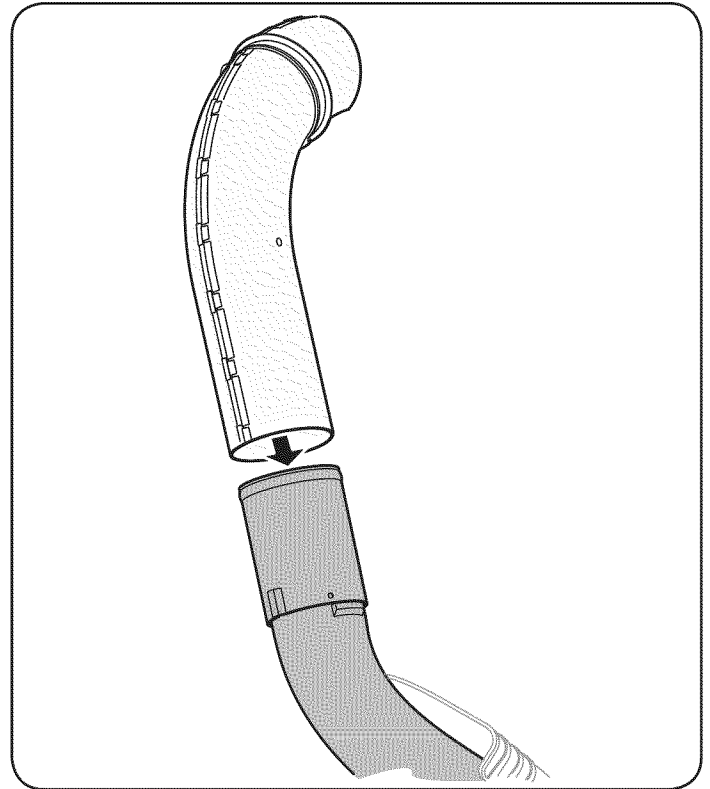
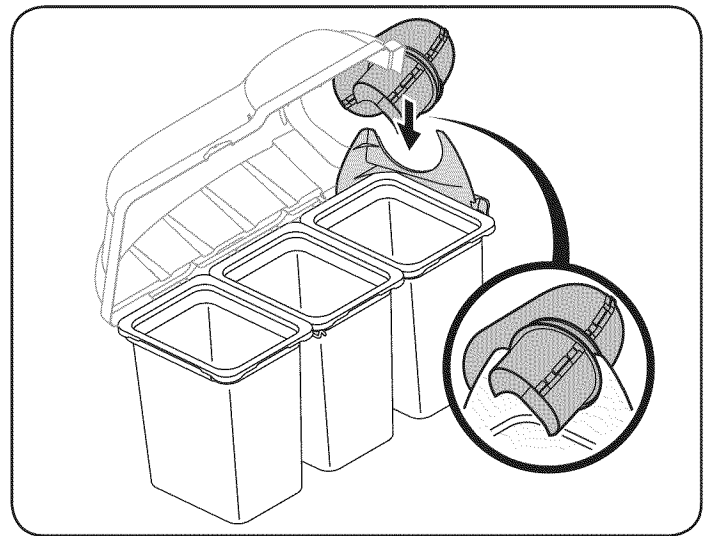

Figure 26
Figure 27
9. With the bagger cover open, install the upper chute over the chute adapter, as seen in Fig. 26, and rest the top so that the chute support sits in the upper chute groove. See Fig. 27.